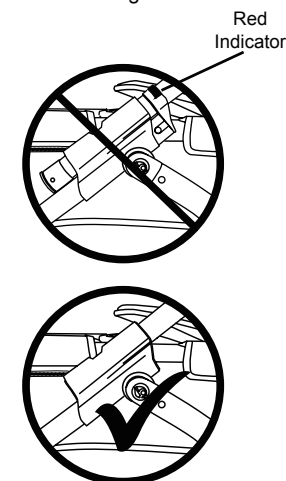

Fig. 1c
- The **RED** indicator on the handle will not be visible when stroller is fully open. If **RED** indicator are visible check open position lock is engaged before continuing. (Fig. 1c).